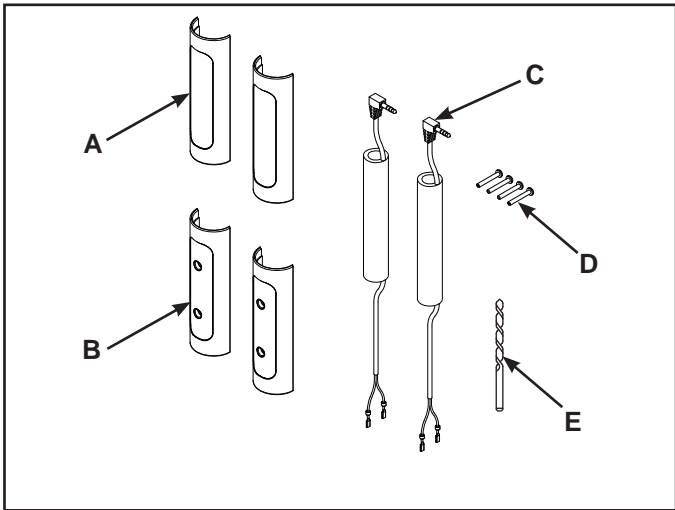

Figure 1
2. Verify kit contents. See Figure 1.
- A. Top plastic sensor grip, (2), 610A-407
- B. Bottom plastic sensor grip, (2), 610A-408
- C. Heart rate cable, (2), AW-18286
- D. Self-tapping screw #6 x 1.00, (4), HT532517
- E. 15/32" drill bit, (1), TE000008
- F. Strain relief plug, (2), (not shown)